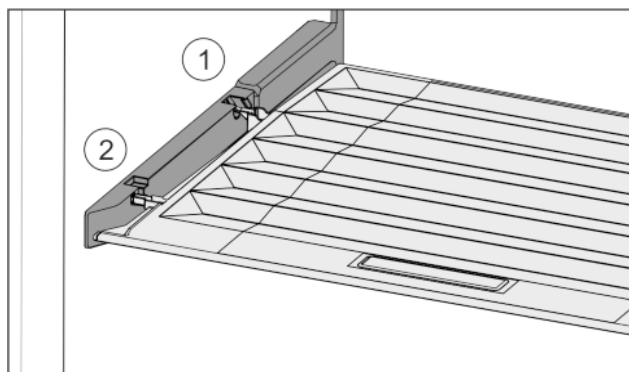

Fig. 33
- Insert the lip of the cover over the opening of the rear bracket Fig. 33 (1) and click into place Fig. 33 (2).